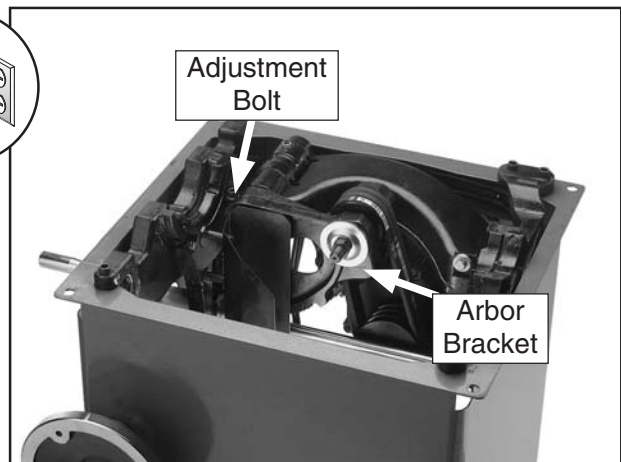

Figure 80. Adjusting arbor bracket.
3. Loosen the adjustment bolt shown in **Figure 80**.